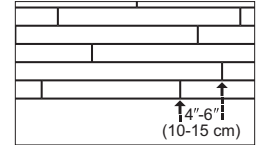

Figure 4
- Be attentive to staggering the ends of the boards at least 4"-6" (10-15 cm), when possible, in adjacent rows (Figure 4). This will help ensure a more favorable overall appearance of the floor.
- Check for a tight fit between all edges and ends of each plank. End-joints of adjacent rows should be staggered 4"–6" (10–15 cm), when possible, to ensure a more favorable overall appearance (Figure 4).